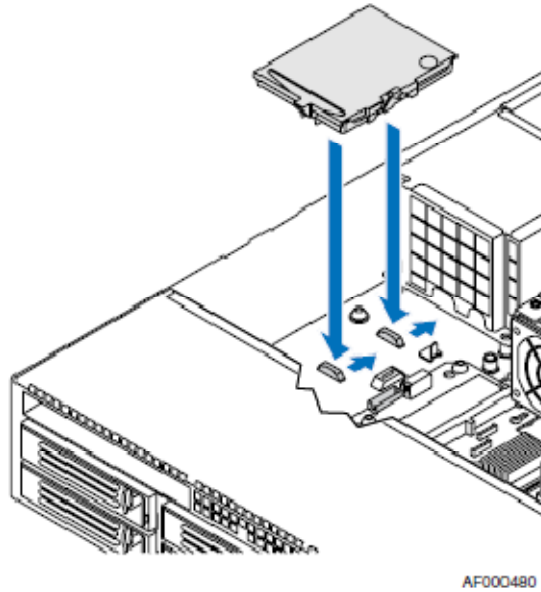

FIGURE 4 – Connecting the Clamshell
3. Slide the clamshell toward the rear of the system until the tabs engage with the clips in the chassis (see Figure 4).